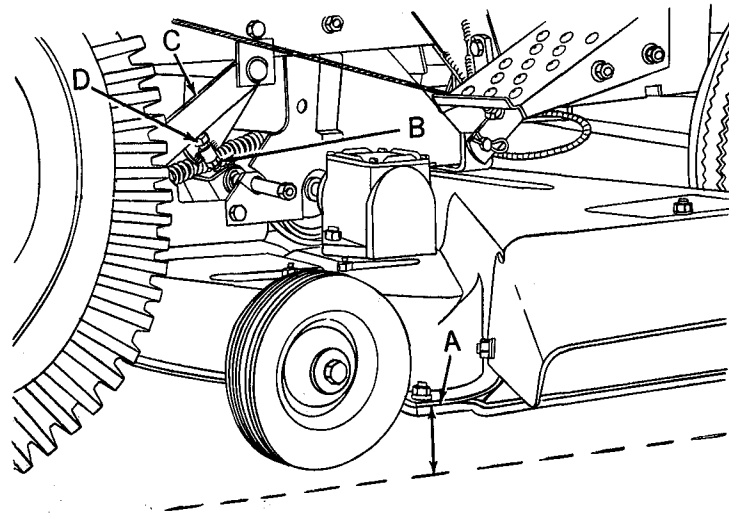

FIG. 20
2. Refer to Fig. 20. If mower is not level, loosen jam nut (B) on sq. hd. set screw in R.H. lift arm (C). If R.H. side of mower is low unscrew set screw (D) from lift arm. If R.H. side of mower is high screw set screw down into lift arm. Adjust screw until both sides of mower are level (same distance to level surface). Then lock in that position by tightening jam nut (B) securely against lift arm (C).